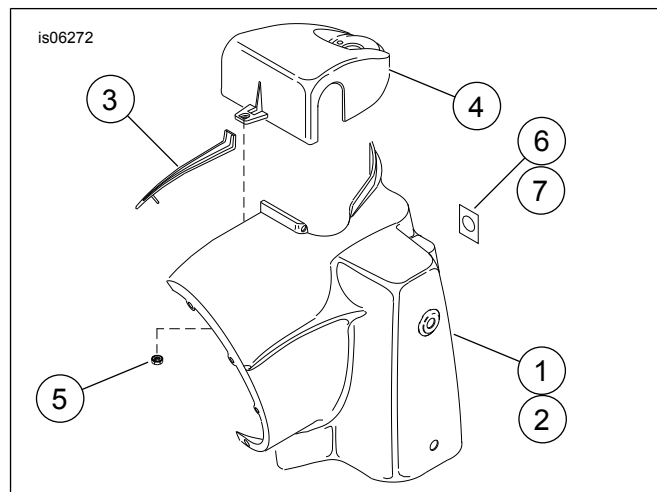

Figure 3. Service Parts: Nacelle and Handlebar Cover Kit
See Figure 3 and Table 1.
2. Insert a stock switch (14) into the mounting hole from the inside of the nacelle making sure the groove in the switch collar engages the notch in the hole. Install the boot (12) onto the collar and tighten securely.
3. Install a trim piece (11) over the rear flange of the nacelle half. Repeat for the other nacelle half.
5. Remove the Pozidrive screw (8), nut (4) and flat washer (5) from the handlebar cover (7) (removed earlier). Discard the handlebar cover and nut.
6. Loosely assemble screw (8) and flat washer with screw (see Figure 3, item 5) to the new handlebar cover (see Figure 3, item 4).
7. Slightly spread the headlamp nacelle halves and install the nut and flat washer on the handlebar cover from inside the nacelle. Install the Pozidrive screw (8) and position the cover over the flange at the top of the nacelle halves. Bring the nacelle halves together then tighten the screw to 1.1–2.3 N·m (10–20 in-lbs).
8. Install the two Pozidrive screws (9) to secure the handlebar cover to the fork lock mechanism. Install the fork lock trim (10).
9. Insert the weld stud of the trim strip (6) into the hole at the top of the nacelle. From the inside of the nacelle and install the flange nut (2). Tighten the flange nut to 1.7–2.3 N·m (15–20 in-lbs).
12. Install the eight well nuts (16) (removed earlier). Attach the wire connector to the back of the headlamp bulb.
13. Align the holes in the headlamp housing (18) and nacelle. Install eight screws (17) and tighten securely.
14. Install the trim ring (1) with the self-tapping screw (19). Tighten securely.